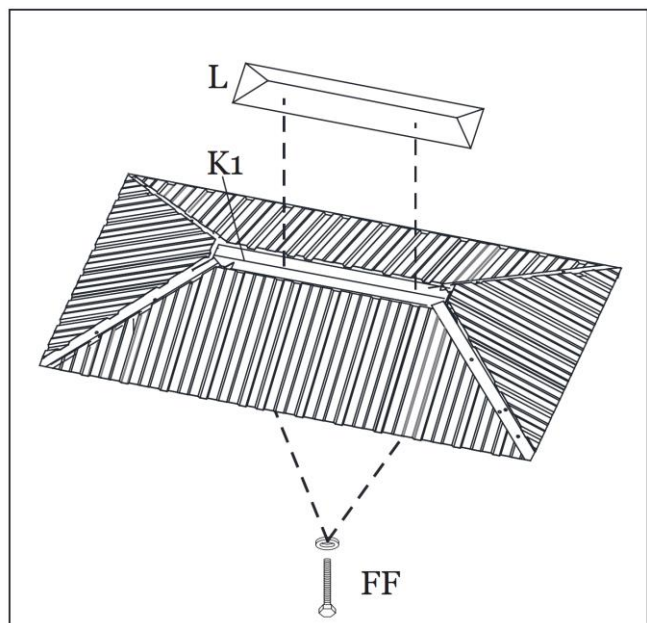

Figure 15-3
Step 15C: Attach the Roof Vent Top Trim (L) to the Roof Vent Support Frame (K1) using Bolts/Washers (FF). **Tighten all Bolts.** See Figure 15-3.